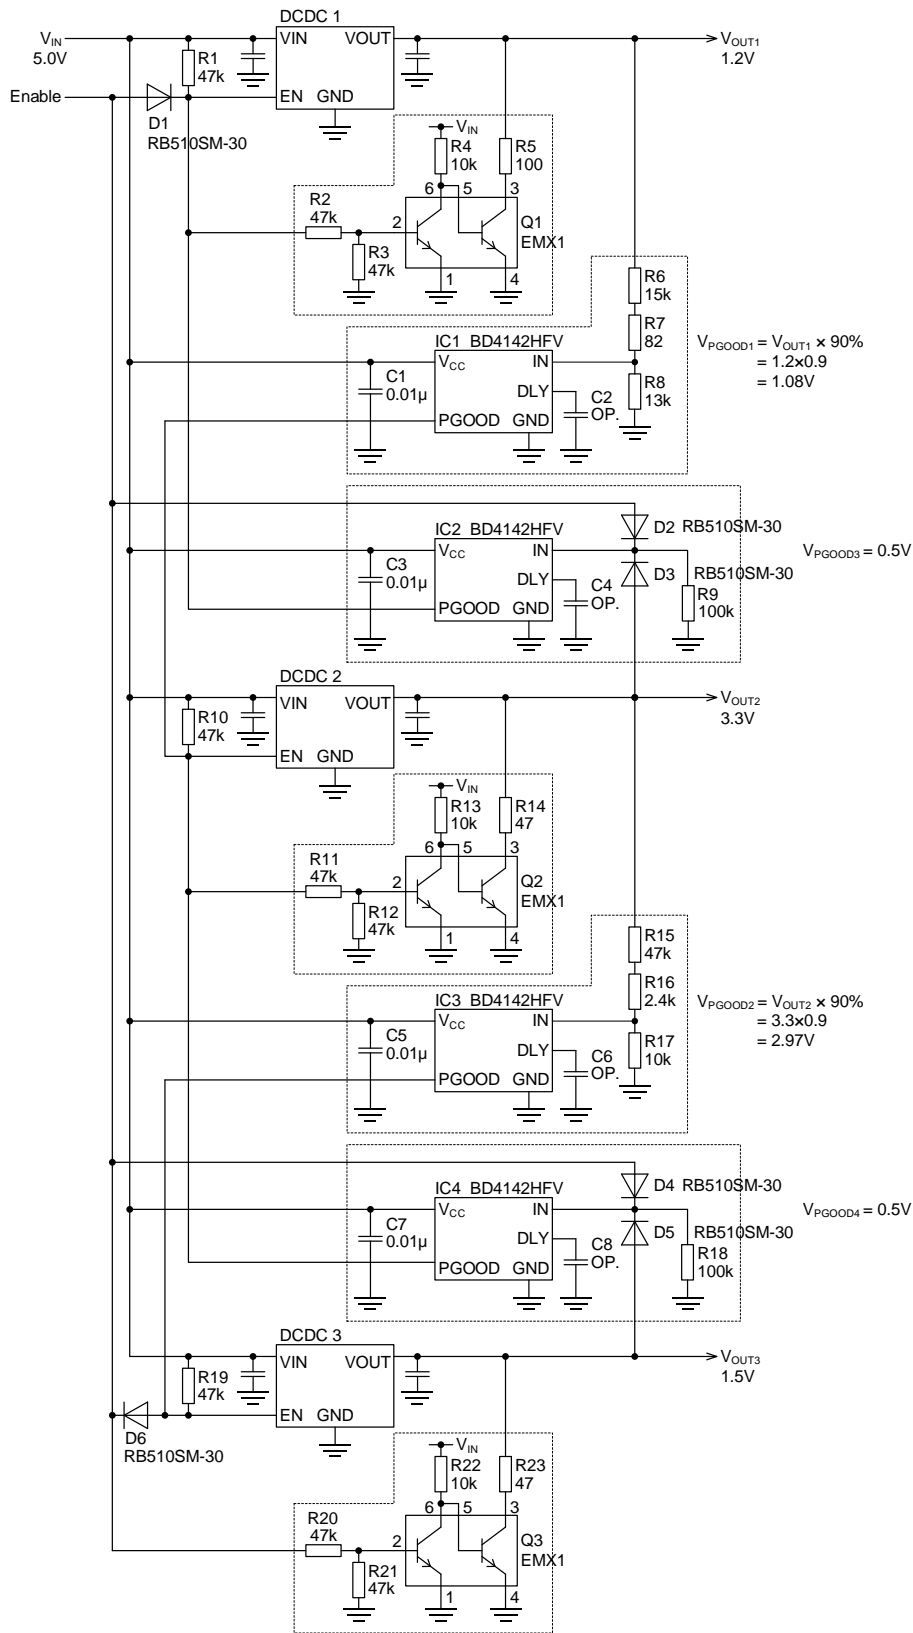
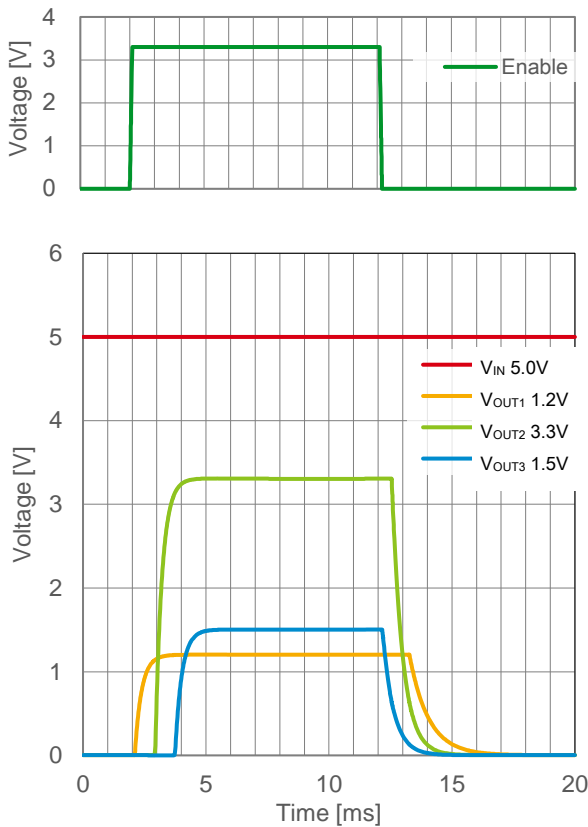

Figure 1-11. Example of a circuit that accomplishes the power supply sequence
Figure 1-14. Operation waveforms of the power supply sequence
Figure 1-11 shows an example of a circuit that accomplishes the power supply sequence. The DCDCs in the 3 systems are assumed to be switching regulators (DC/DC converters) or linear regulators (LDO). The DCDCs feature an enable (EN) pin that can control the ON/OFF of the output.
In the example shown in Figure 1-11, V_{OUT1} is 1.2 V and the PGOOD of IC1 is set to output the flag when 90% of the output voltage is reached. If the detection voltage is set to a higher value such as 95%, the PGOOD output switches to “Low” when the output voltage momentarily drops due to fluctuations in the load, disadvantageously causing momentary interruptions to the DCDCs in the subsequent stages. The detection voltage should be determined after understanding the specifications of the fluctuations in the load and the voltage drop. The detection voltage at 90% is $1.2 \text{ V} \times 0.9 = 1.08 \text{ V}$. The resistor values can be calculated from Equation 1 as follows.
Figure 1-14 shows an example of the operation of the circuit in Figure 1-11. The voltage from the main power supply (V_{IN} 5.0 V) is always applied. To turn ON the power, switch the Enable pin from “Low” to “High”. Then, the output is turned ON in the order of V_{OUT1} , 2, and 3 according to the specification initially created. Next, to turn OFF the power, switch the Enable pin from “High” to “Low”. The output is turned OFF in the order of V_{OUT3} , 2, and 1.